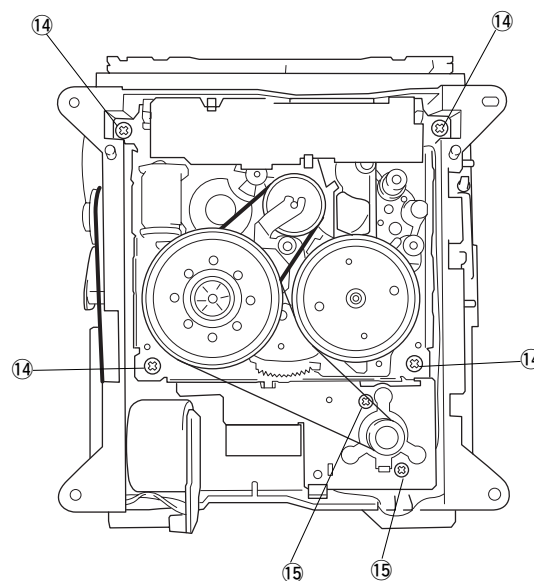

Fig. 13
Remove 4 screws (⑭) and then pull out the Cassette Mechanism in Fig. 13.
Remove 2 screws (⑮) in Fig. 13.